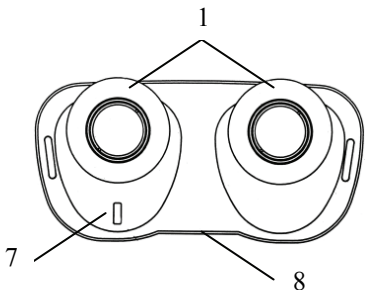

Fig. 2. Rear view
- Adjust the interpupillary distance with lever (7, Fig. 2).